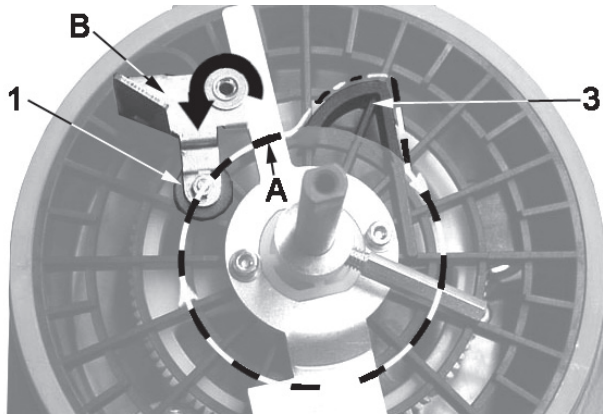

Figure 15 Switching parts of the low-level control for grease (when reservoir is filled).
### Grease Reservoir Full of Grease - Fig. 15
- The pivot bracket of the stirring paddle (B) (Fig. 15) is completely submerged into grease and grease resistance to paddle rotation guides the bracket with round magnet 1 inward to orbit (A).
- Control Cam (3) (Fig. 15) guides the pivot bracket with magnet and outwards, in the direction of the reservoir wall. Since reservoir is full, grease resistance guides pivot bracket inward to orbit (A) as soon as bracket passes the cam (3).
**NOTE:** The above mentioned switching parts (1 to 3) (Fig. 15 & 16) must not be used with fluid grease or oil. In this case, use a float magnetic switch.